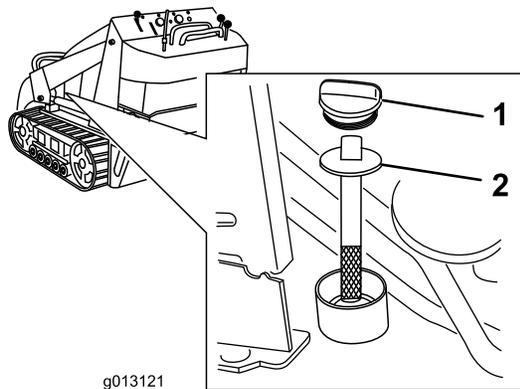

Figure 59
5. Remove the hydraulic-tank cap and dipstick (Figure 59).